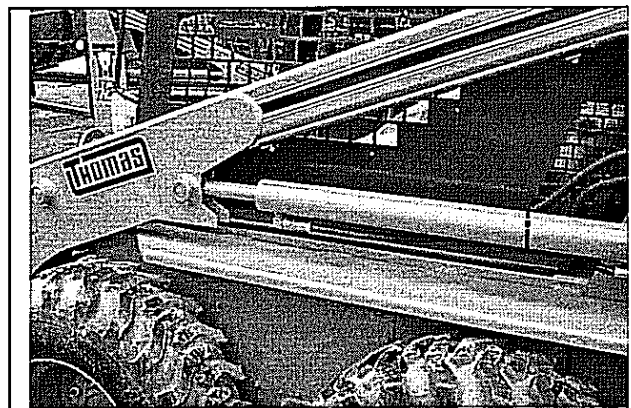

Fig. 6.2.1d
7. Remove the boom cylinder rod end pivot pin (Fig. 6.2.1d). Place a support under the boom cylinder to prevent the cylinder from falling when the pin is removed.